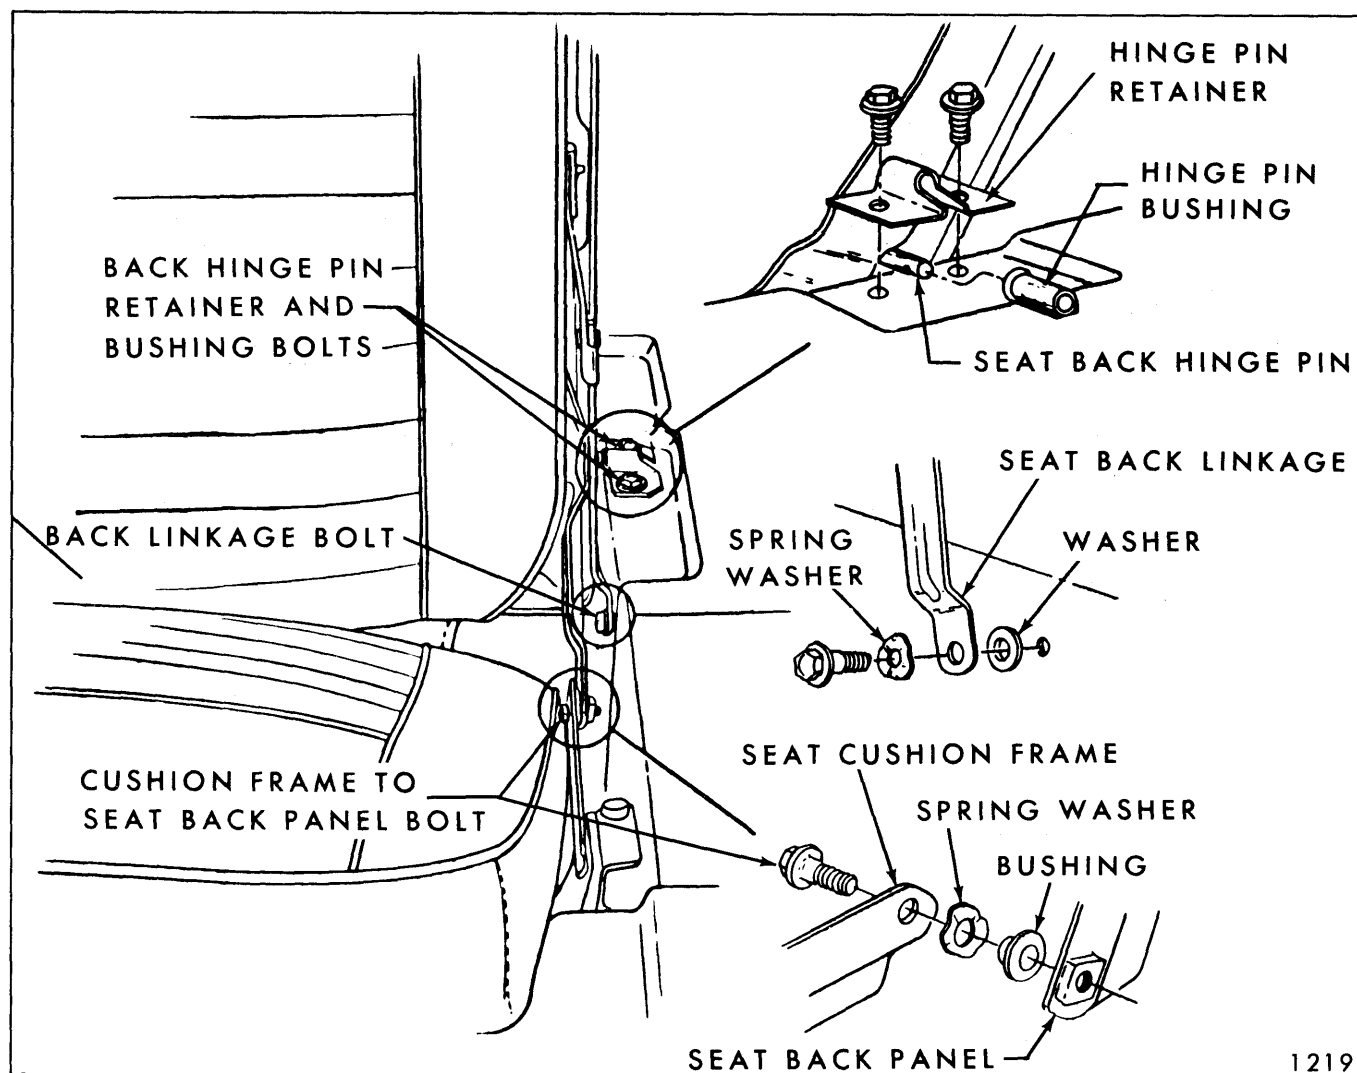

Fig. 15-81—Folding Third Seat
2. Remove seat back linkage-to-compartment side pan attaching bolt (Fig. 15-81) at both right and left sides of seat.
3. At left side of seat remove seat back hinge pin retainer (Fig. 15-81).
5. To install folding third seat and floor panel assembly, reverse removal procedure. Make sure a seat back hinge pin bushing is installed over both hinge pins. Also install flat washer between seat back linkage and compartment side pan and spring washer between linkage and bolt head (Fig. 15-81).
3. Remove seat cushion frame-to-seat back panel attaching bolt (Fig. 15-81) from both sides of seat; then, remove seat cushion assembly and place on a clean surface.
5. To install, reverse removal procedure. When installing seat cushion frame-to-seat back frame attaching bolts install bolt bushing and spring washer, as shown in insert of Figure 15-81.
4. To remove seat back panel assembly, remove seat cushion frame-to-seat back panel attaching bolt (Fig. 15-81); then, remove seat back panel with attached rear floor filler (at kick-up) panel from seat cushion.
5. To install, reverse removal procedure. Refer to inserts in Figure 15-81 for correct installation of linkage bolts, bushings and spring washers.